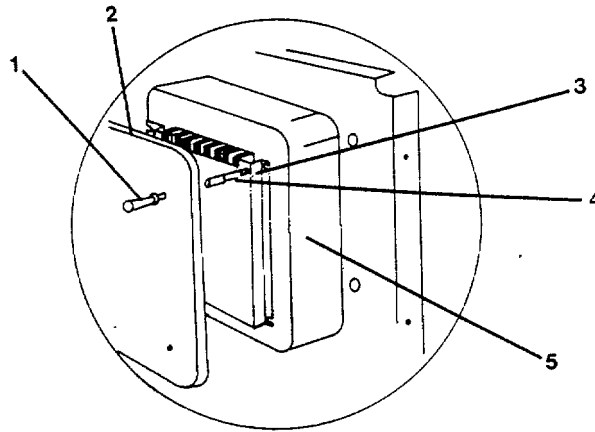

FIGURE 2-3. Voltage Regulator Panel.
**2-23. Repair Generator Assembly. (Figure 2-3)**